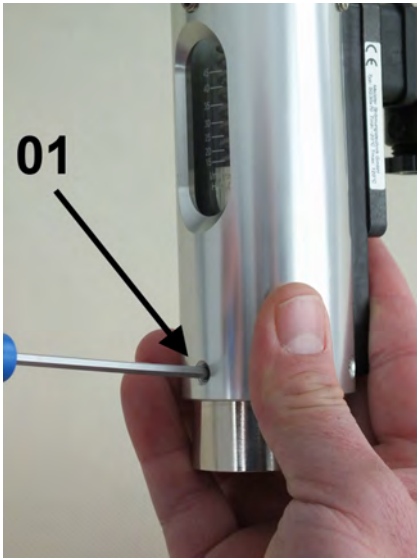

Fig. 38: Loosen screws
3.  Secure the device with one hand to ensure the sight glass does not slip out. With the other hand, loosen the lower 3 hex head screws (Fig. 38/01).